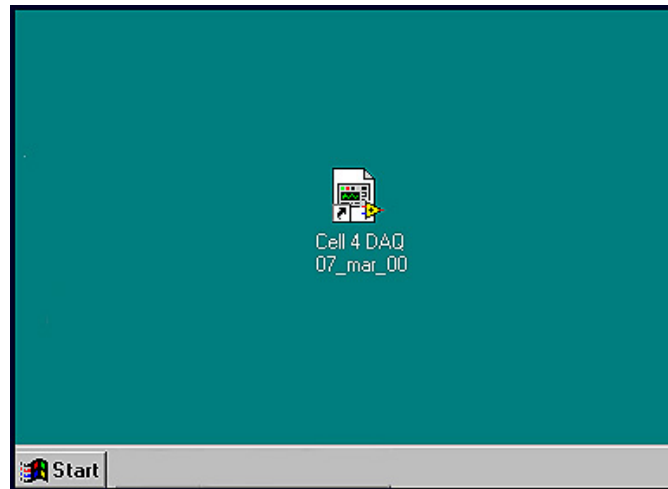

Figure 3
- 107 On the computer desktop, select the “Cell 4 DAQ” icon. See Figure 3. Wait for the LabView program to load. The “Cell 4 Task Master(doc).vi” will open.